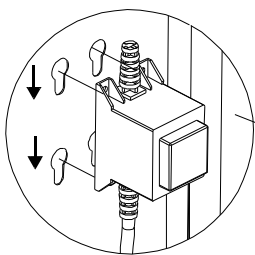

Fig. 1
- Attach Transformer to the Cart Rear Panel by inserting 4 stud bolts on the Transformer into the 4 key holes on the Cart Rear Panel. **Press the Transformer downwards until it rest firmly in place. (See Fig.1)**